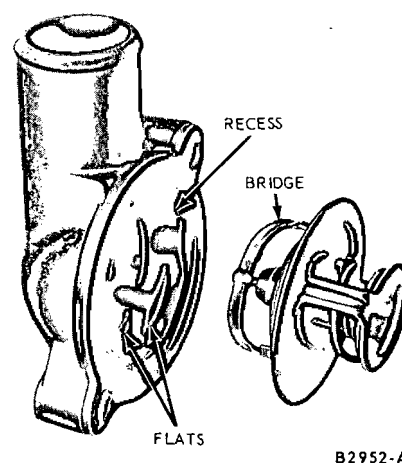

FIG. 4—Installing 6-Cylinder or 289-V8 Thermostat
1. Clean the coolant outlet housing and cylinder head surface. Coat a new coolant outlet housing gasket with sealer. Position the gasket on the cylinder head or intake manifold (289 V-8). **The gasket must be positioned on the cylinder head or intake manifold before the thermostat is installed.** To prevent incorrect installation of the thermostat, the water outlet casting on all six-cylinder and 289 V-8 engines contains a locking recess into which the thermostat is turned and locked. Install this thermostat with the bridge section (Fig. 4) in the outlet casting. Turn the thermostat clockwise to lock it in position on the flats cast into the outlet elbow.
1. Loosen the fan belt. Remove the capscrews retaining the fan drive clutch to water pump hub (Fig. 4). Remove the fan drive clutch and fan as an assembly.
2. Position the fan drive clutch and fan assembly to the water pump hub (Fig. 4). Install and tighten the retaining capscrews evenly and alternately to specifications. Check the fan clutch mounting face for proper alignment.